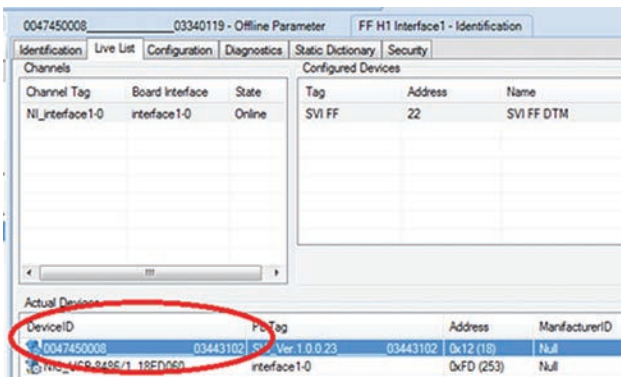

Figure 2 - Device ID: Live List
- From the Live List information presented in the DCS or in the Communication DTM (Figure 2).